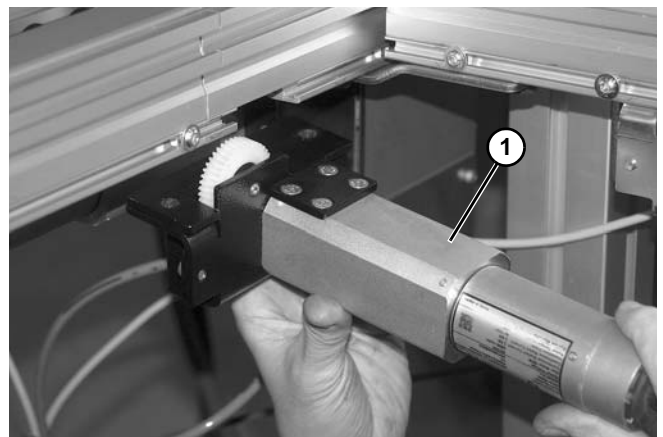

Figure 53
3. Lower and remove motor (Figure 53, item 1) from conveyor frame.